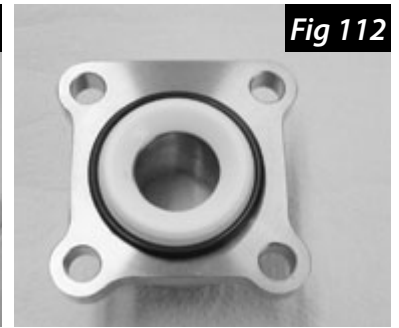

Fig 112
7. Place the Teflon® seat within the o-ring on the end cap as shown. Be sure to place the end cap on a soft surface to avoid damaging the flange (Fig 112). **Note: The new Teflon® seats will be a little thicker than the used ones. This is perfectly normal as the seats are designed to be compressed when the valve is fully assembled.**